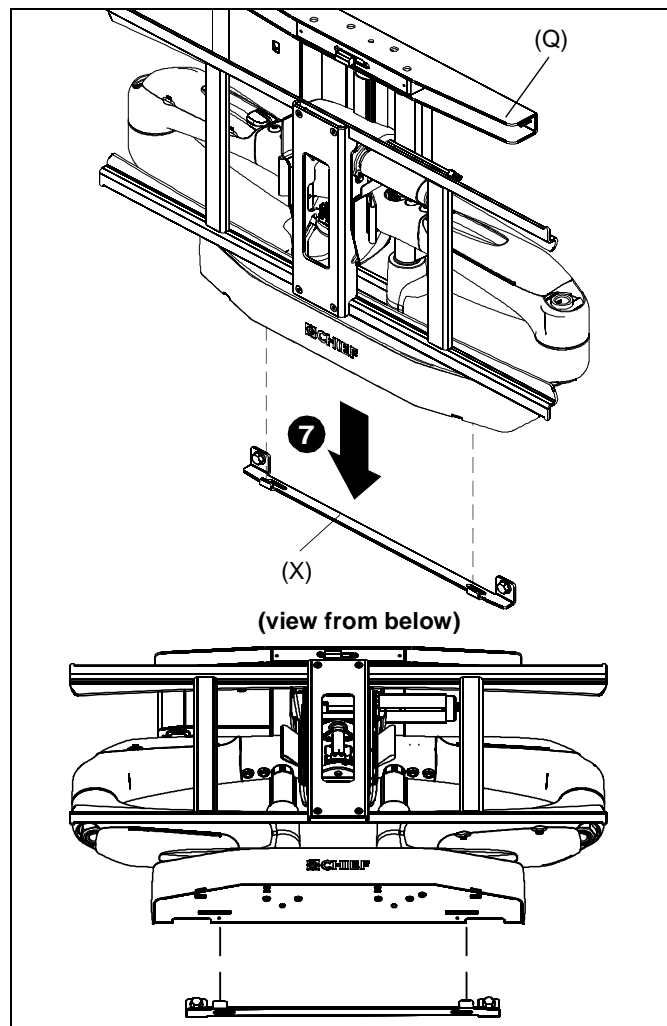

Figure 6
7. Lower PXR (Q) onto mounting bracket (X), ensuring PXR fits over mounting bracket tabs. (See Figure 6)